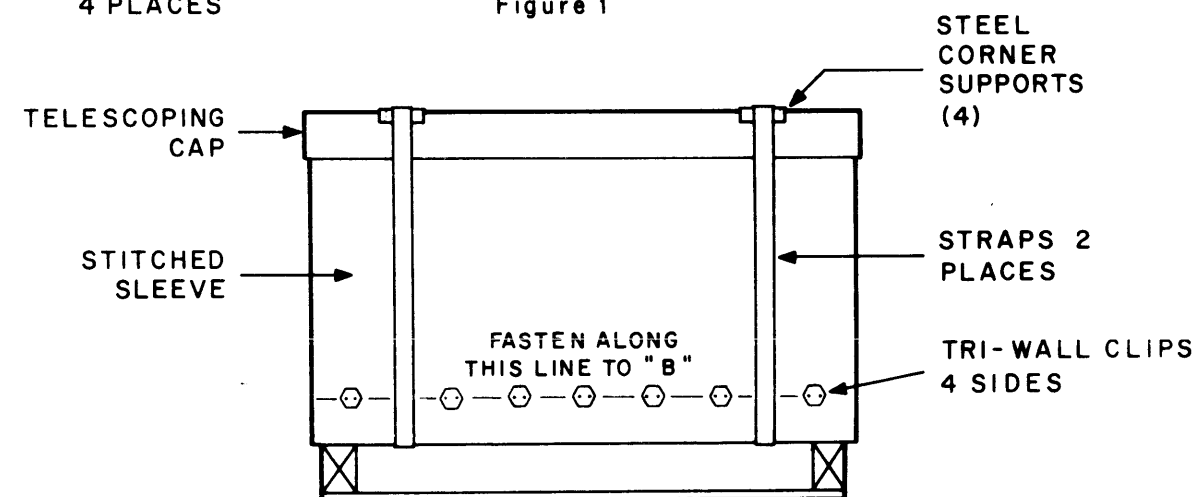

Figure 2
2. Place the Stitched Sleeve as shown in Figure 2 and fasten it to the skid with Tri-wall clips placed approximately 6 inches apart from each other.
3. Place the telescoping cap on the sleeve and strap it in two places using steel corner supports on the cap, as shown in Figure 2.